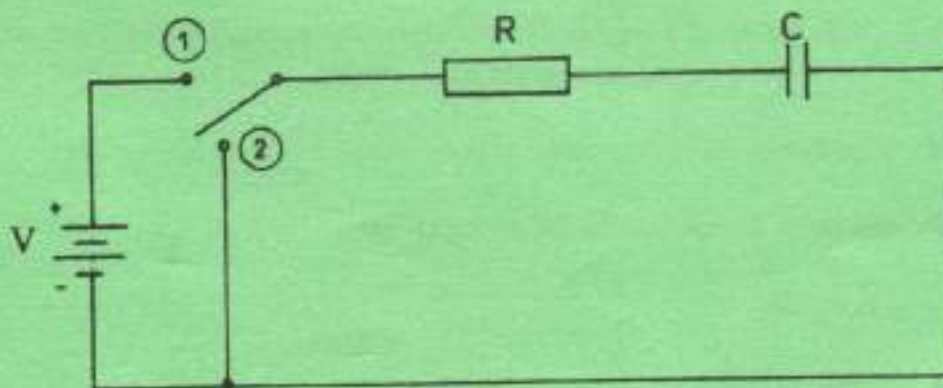

Fig. 3
3. (a) Figure 3 shows an R-C circuit.